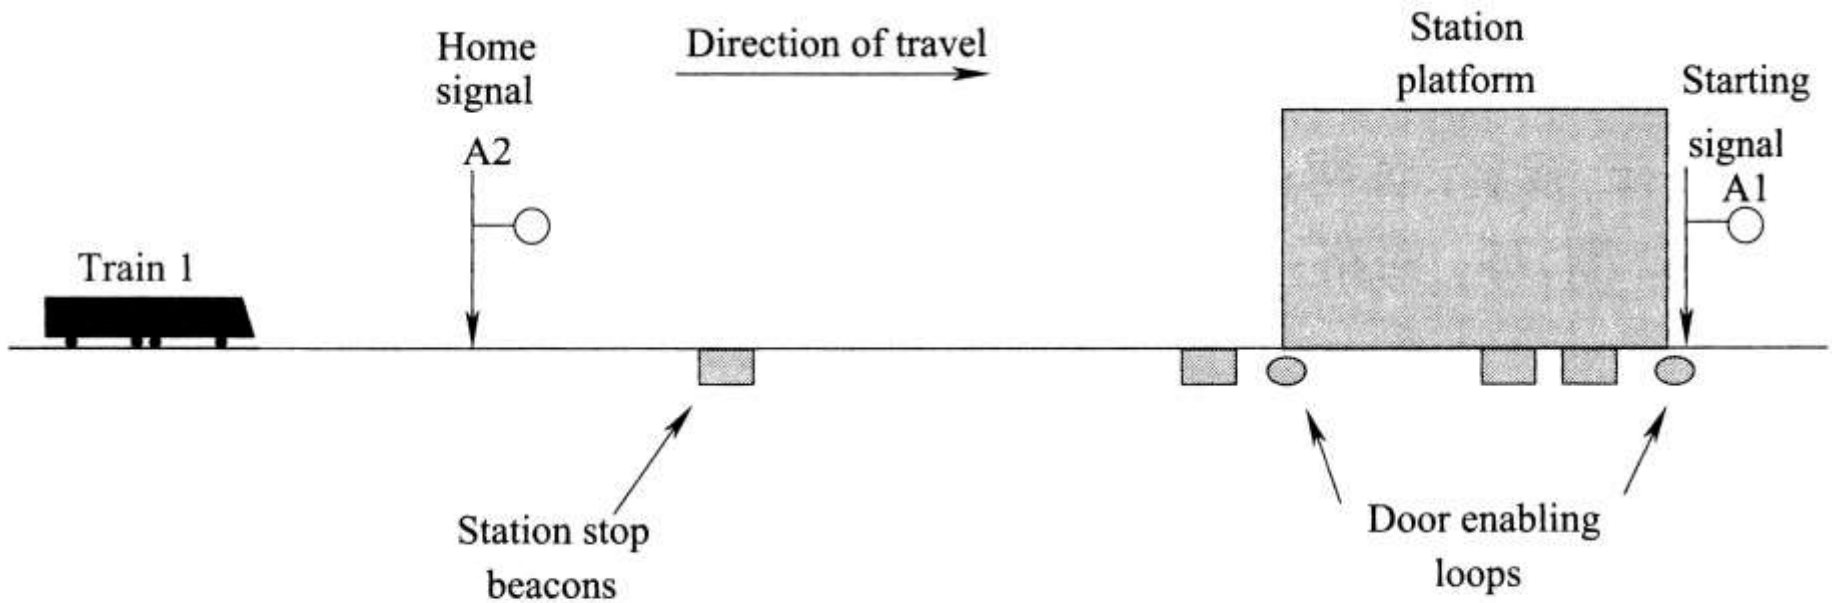

Fig. 7.5 Docking and Starting
- ◆ Some systems even take door operation away from the operator and give it to the ATO system, so equipment is provided as shown in Fig.7.5.